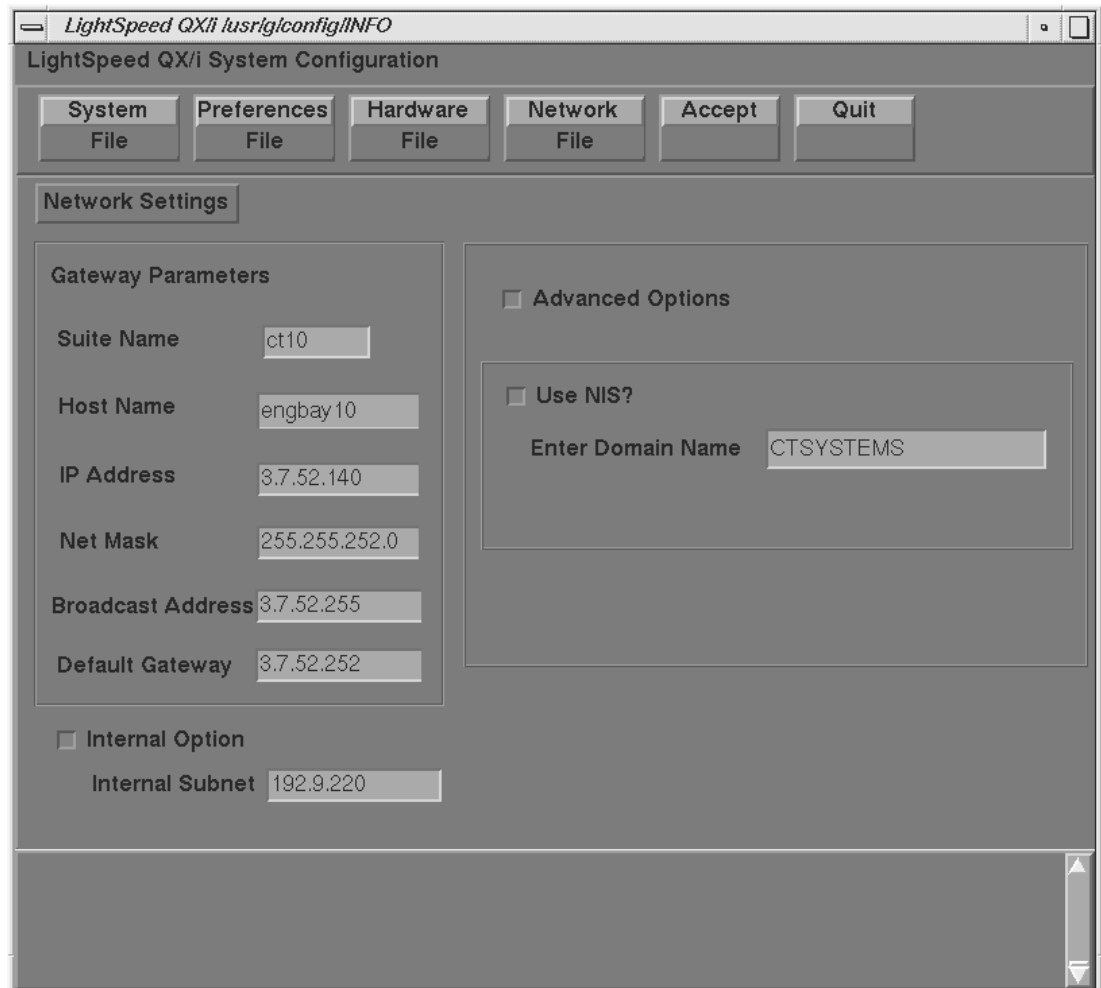

Figure 4-5 Network Settings Screen
- 12.) Select the NETWORK button to display the Network Settings Screen, as shown in Figure 4-5.